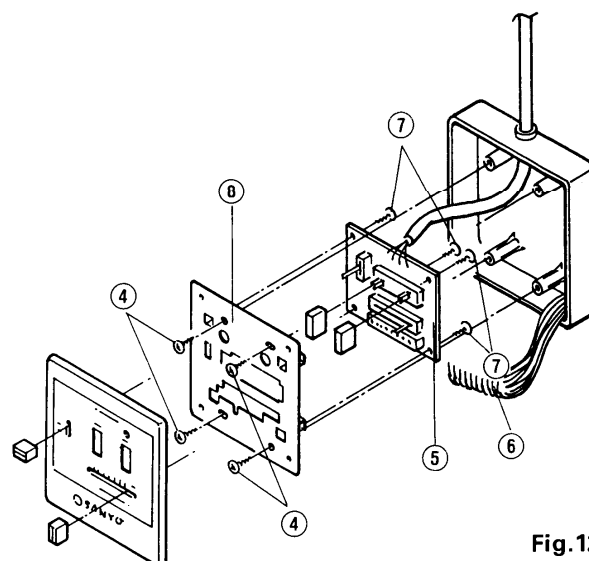

Fig.12
- ④ For removal of the control switch PCB assembly ⑤, removed the connection of the lead wires ⑥ and remove the four screws ⑦. Fig.12.